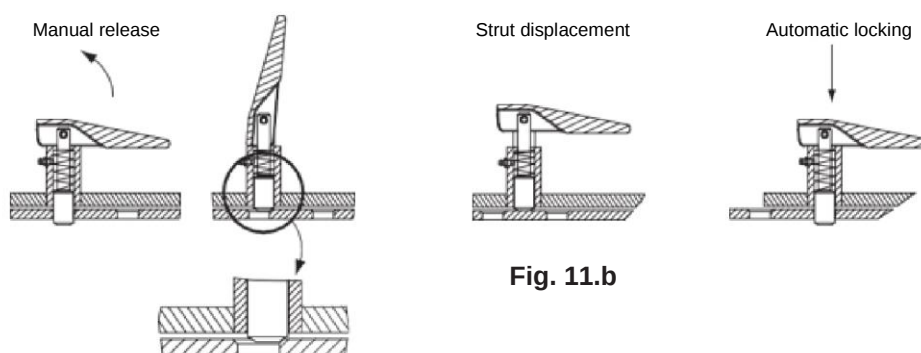

Fig. 11.b
- Unfold the left-hand and right-hand struts to ensure the contact points, position the assembled handles (M) on the upper struts with the screws (4), nuts and washers provided, leave a clearance of 4 mm with the plate return (P) to ensure the automatic operation of the handles, and verify the point of contact between the strut and the plate when the handle is in locked position (fig. 11 a).
- Verification of upper position (work) and lower position (road) and the automatic closing capability of the handles (fig. 11 b).
Fig. 11 a